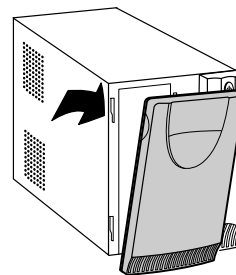

Figure 18 Removing the UPS Front Bezel
- 2 Pull the top left corner forward and remove the UPS front bezel (see Figure 18).